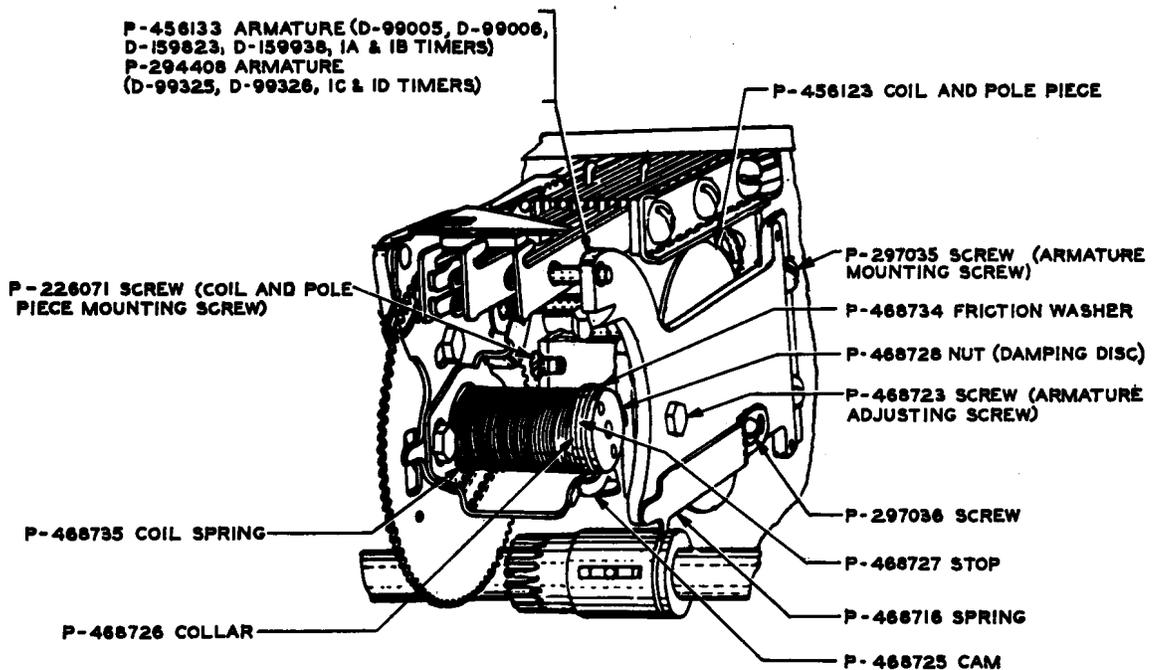

Fig. 1 - Timer and Pinion
3.06 Armature: Remove the armature adjusting screw shown on Fig. 1 with the No. 551A wrench. Remove the armature mounting screws with the KS-6854 screwdriver and remove the armature. Mount the new armature.